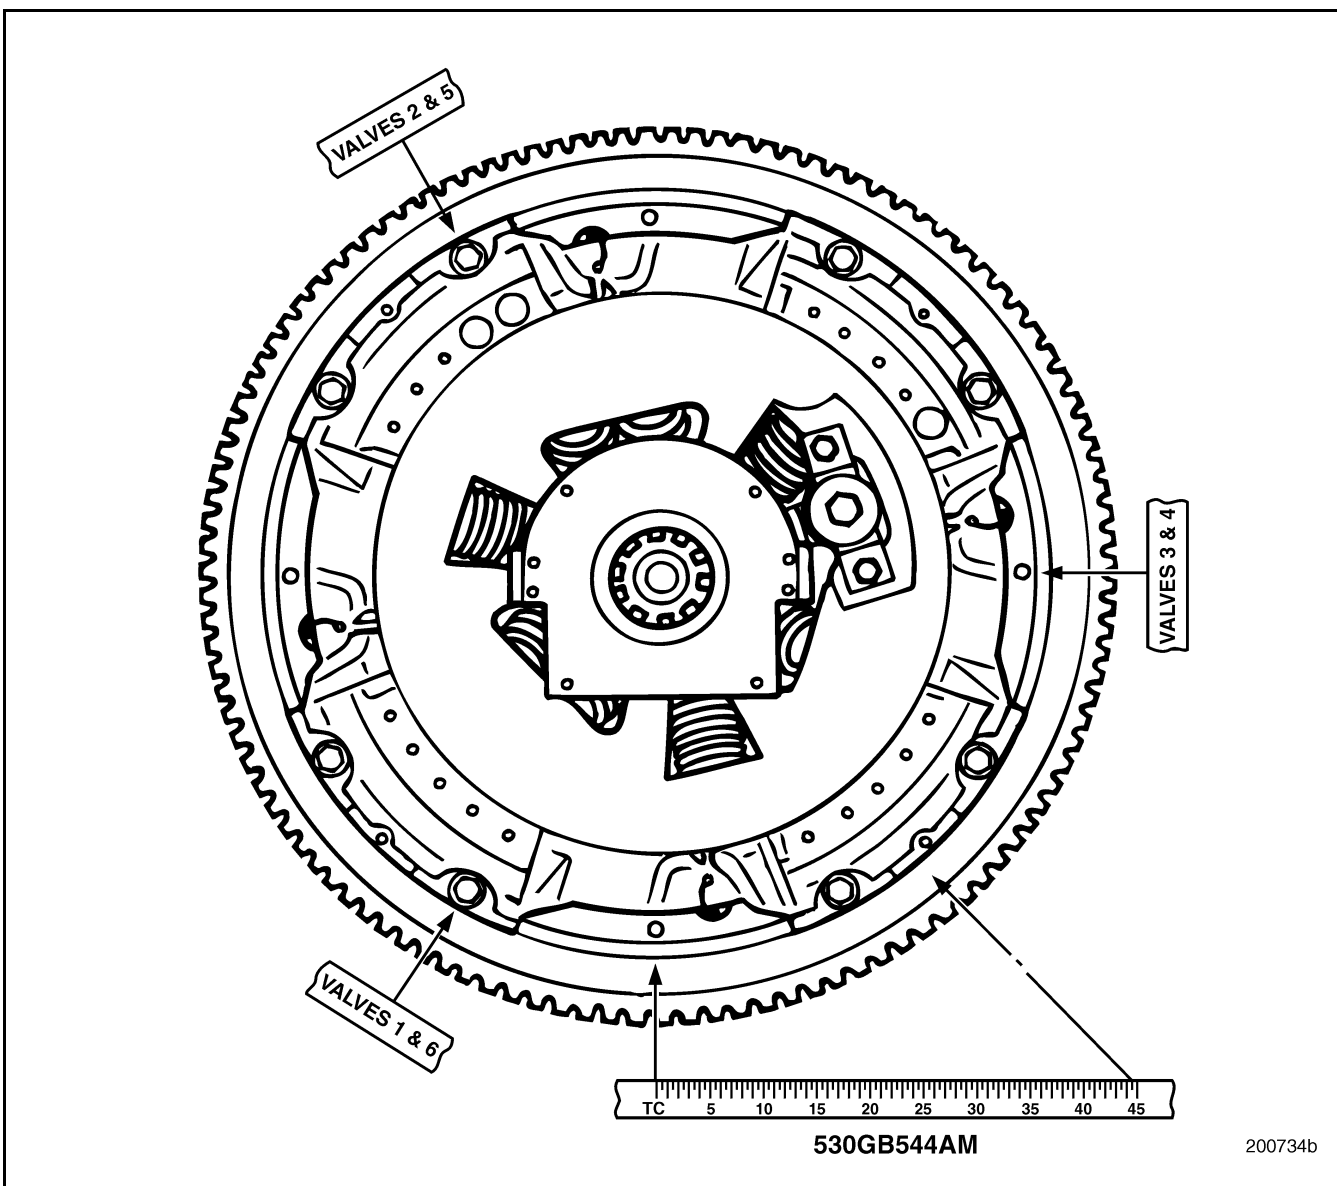

Figure 256 — Flywheel Markings
The flywheel has a stamped timing scale of top center (TC) to 45 degrees of engine travel (engine timing) and three stamped locations, 120 degrees apart, for valve settings as shown in Figure 256. The flywheel still has pump timing marks to accommodate application to both E-Tech™ and E7 engines; the marks are not needed for the E-Tech™ engine.